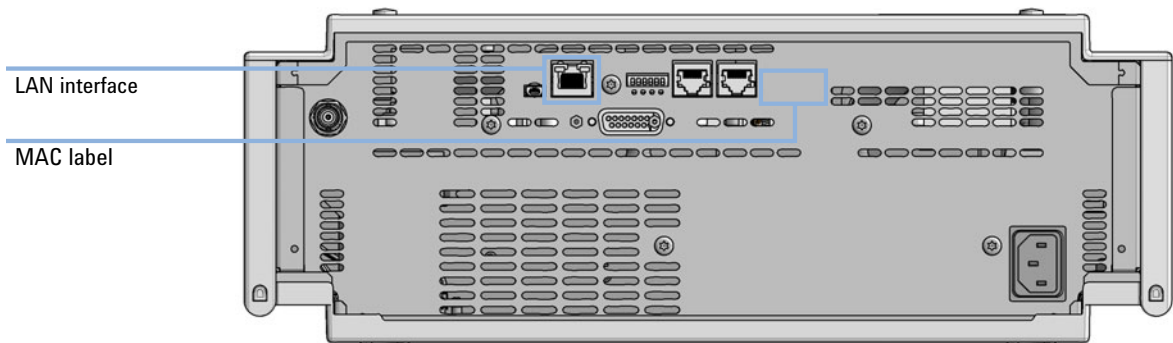

Figure 57 Location of LAN interfaces and MAC label
- 1 Note the MAC (Media Access Control) address for further reference. The MAC or hardware address of the LAN interfaces is a world wide unique identifier. No other network device will have the same hardware address. The MAC address can be found on a label at the rear of the module underneath the configuration switch (see Figure 57 on page 214).
- 2 Connect the instrument's LAN interface (see Figure 57 on page 214) to